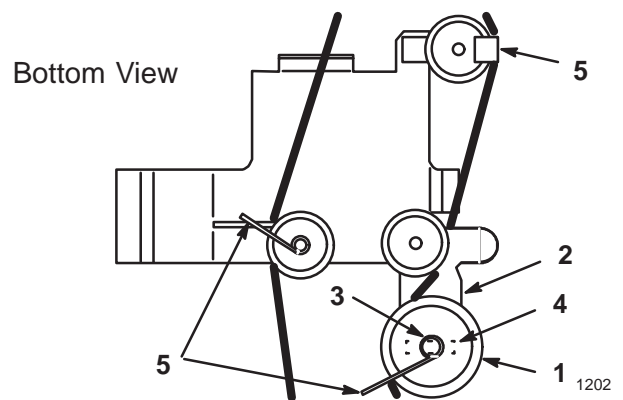

Figure 30
2. Pull on spring loaded idler pulley and remove belt from electric clutch to release tension on belt (Fig. 30).
3. Loosen bolt securing idler pulley to idler arm. Slide idler pulley in slot of idler arm to change belt tension as required. (Fig. 30).
4. Check belt guides for proper location (Fig. 30).